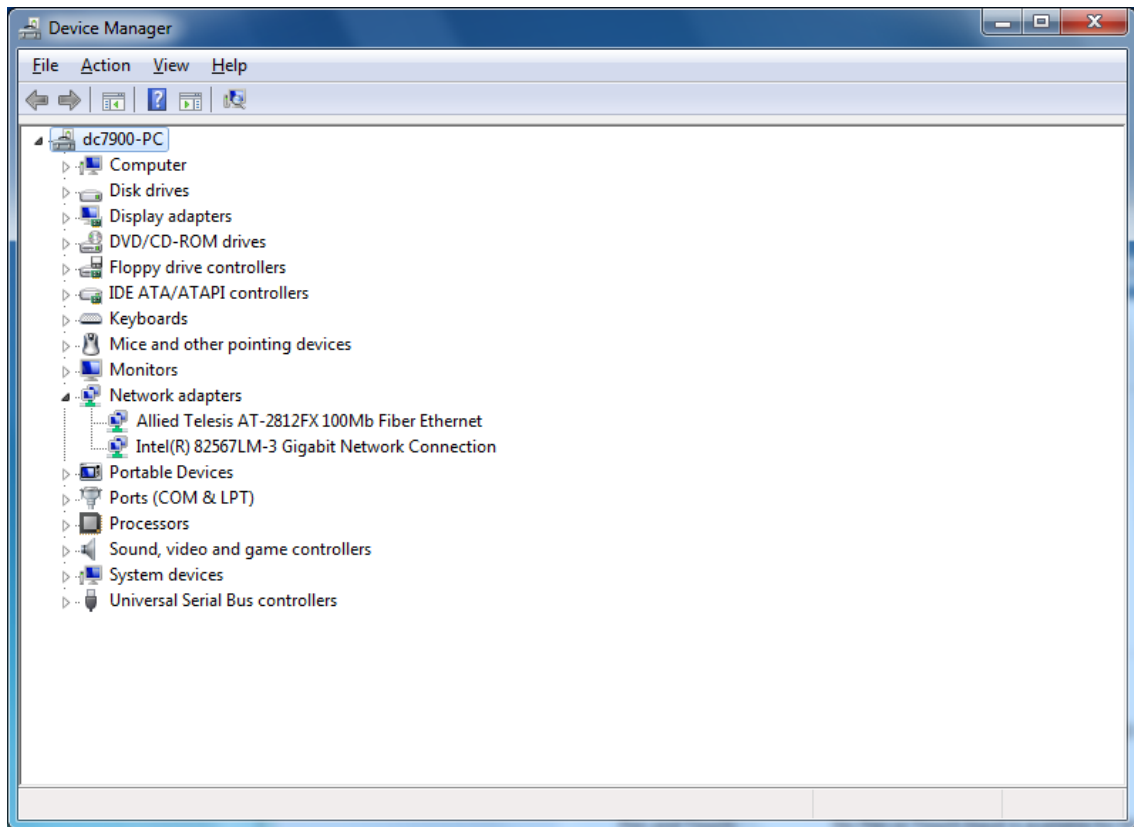

Figure 17. Device Manager Window
4. From the Computer Management Window, select Device Manager in the left panel. The Device Manager window is displayed. See Figure 17 on page 42.
The Device Manager Window is shown in Figure 17 on page 42.